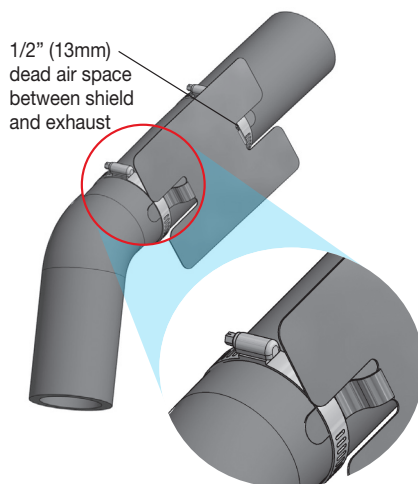

Fig. 22
1. Attach the metal heat shield to the exhaust where it is closest to the passenger's (right) side air spring (Fig. 22 & Fig. 23)